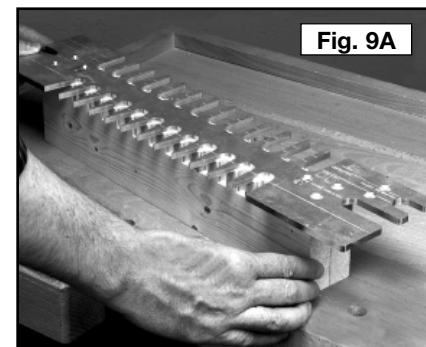

Fig. 9A
- Step 1** - Orient the template so that the “PINS” side is facing you (Fig. 9A).